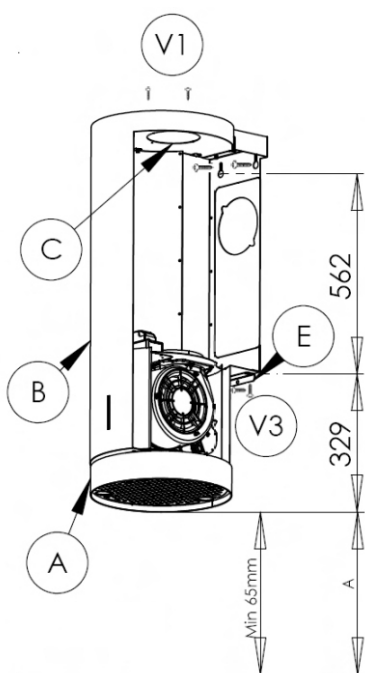

Fig. 1
- 1.) Identify the desired distance (A) between the hood and the cooking surface (Fig.1) - recommended is 26" to 30".
- 2.) Remove the screws (V1) and remove the top (C).
- 6.) Attach the security bracket (E) to the wall, as shown in Fig.1.